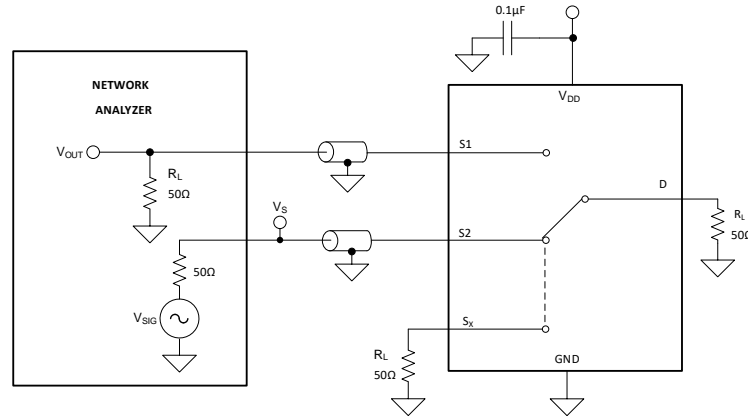

Figure 26. Crosstalk Measurement Setup
Crosstalk is defined as the ratio of the signal at the drain pin (D) of a different channel, when a signal is applied at the source pin (Sx) of an on-channel. Figure 26 shows the setup used to measure, and the equation used to calculate crosstalk.